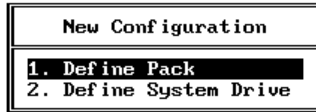

Figure 2-17. New Configuration - Define Pack
2. Select **Define Pack** from the New Configuration menu (Figure 2-17). This option is used to define drive groups (also called packs).